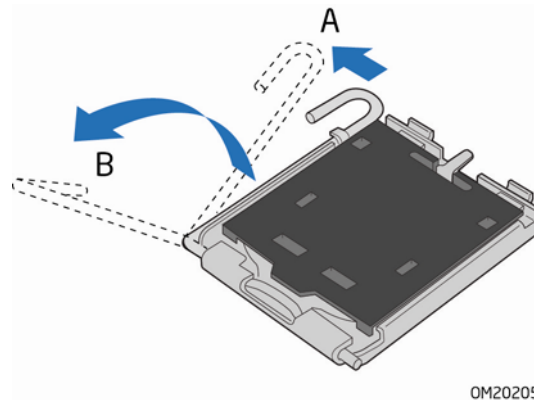

Figure 7. Lift the Socket Lever
2. Open the socket lever by pushing the lever down and away from the socket (Figure 7, A and B).